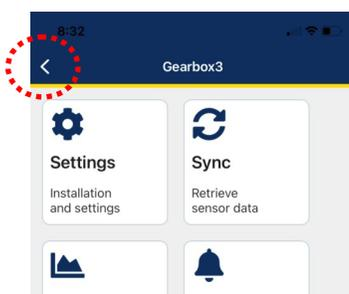

Figure 5
8. Go back to the app main screen (see figure 5). Within 10 seconds, the Pressure and Temperature values will appear neutral (-).